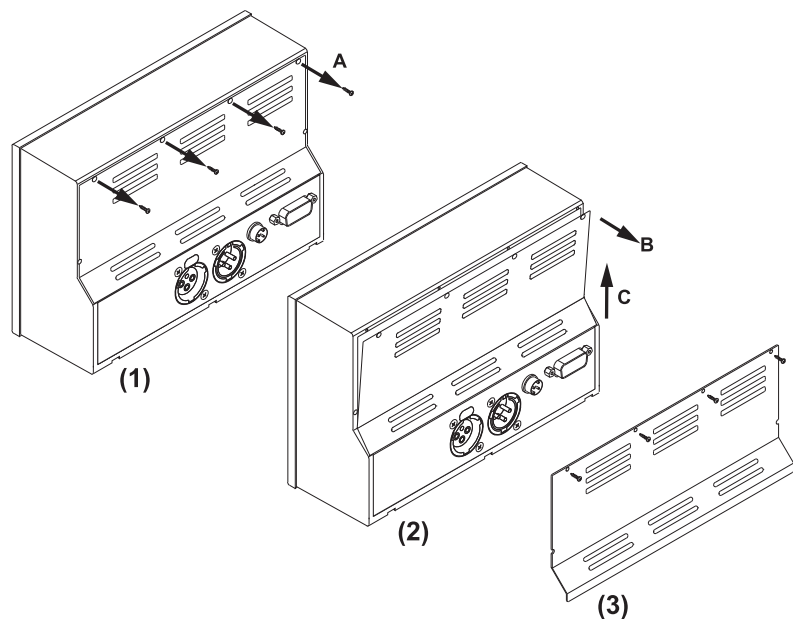

Fig. E 7-2: Removing of the backplane cover
3. Loose the four screws on the rear side (upper flange). Open the back-plane cover and remove it. Store screws and metal plate. (Fig. E 7-2)